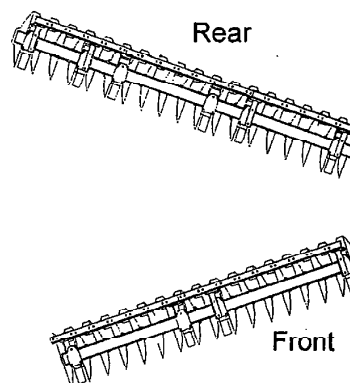

Figure 1 - Positioning Gangs for Assembly
3) Position the gangs in a "V" pattern in the middle of the assembly area as shown in Figure 1 with the scraper blades to the rear. The narrow part of the "V" should be to the left with about 2 feet between the gangs.